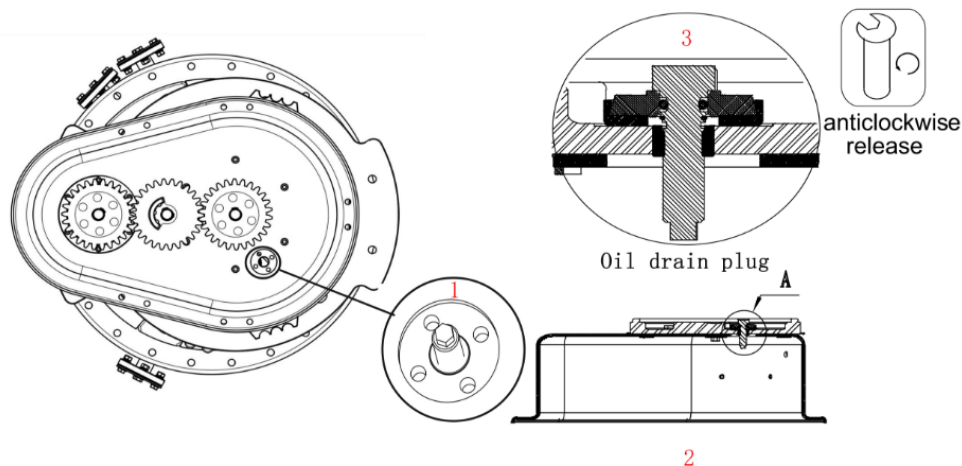

Figure 6.1.1
- 1) Unscrew oil drain plug between the oil compartment bottom and the tap selector gears clockwise. (See Figure 6.1.1)